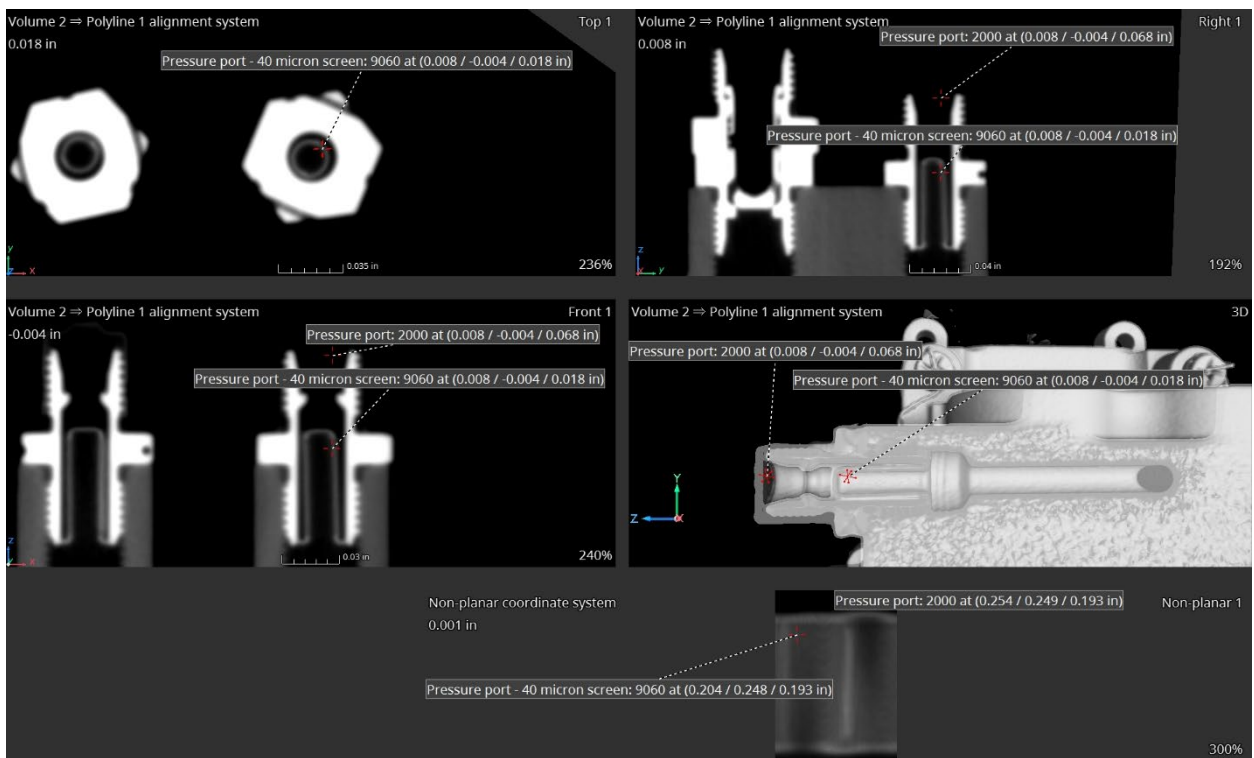

Figure 10. Power brake and antiskid valve assembly - pressure port and 40 micron screen.
- 2) Figures 10 through 13 show the pressure port and pressure passages.